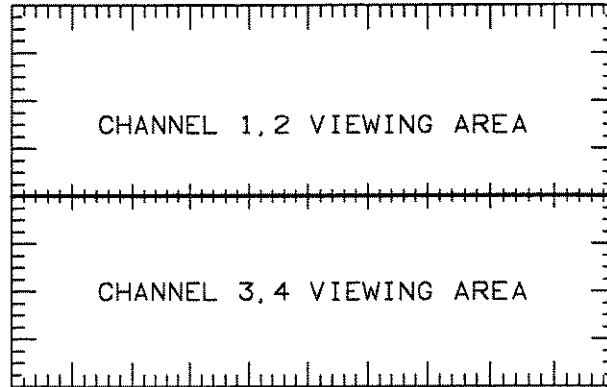

Figure 3-31. Dual Screen Display
- **2:** the display area is divided into two screens. Channels 1 and 2 will be displayed in the top screen and channels 3 and 4 will be displayed in the bottom screen (See figure 3-31).